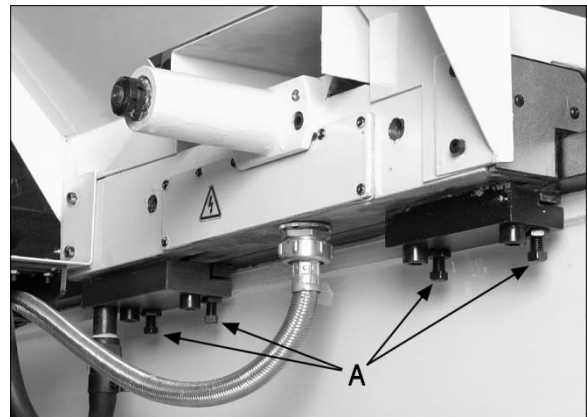

Figure 36 – Saddle sliding plate adjustment
**Saddle** – Turn screws (A, Figure 36) on either side of the saddle at the rear to adjust drag on the saddle.